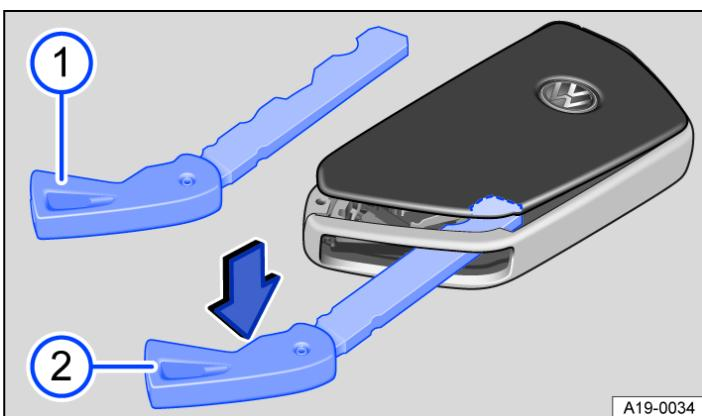

Fig. 1 Vehicle key: opening battery compartment cover.
1. Remove the manual key → Fig. 1 ⓘ (Vehicle key).
2. Insert the manual key in the slot → Fig. 1 ⓘ, press in the direction of the arrow and lever off the cover.